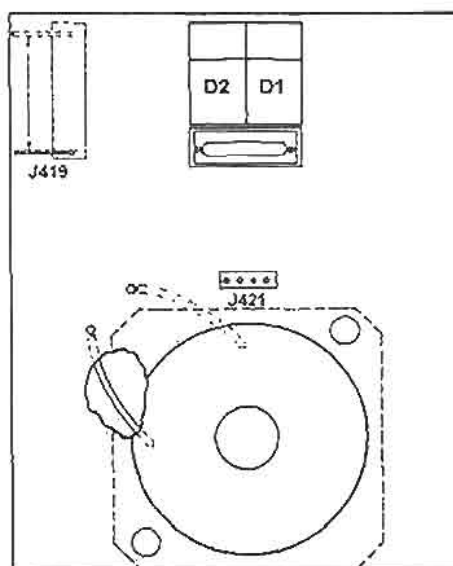
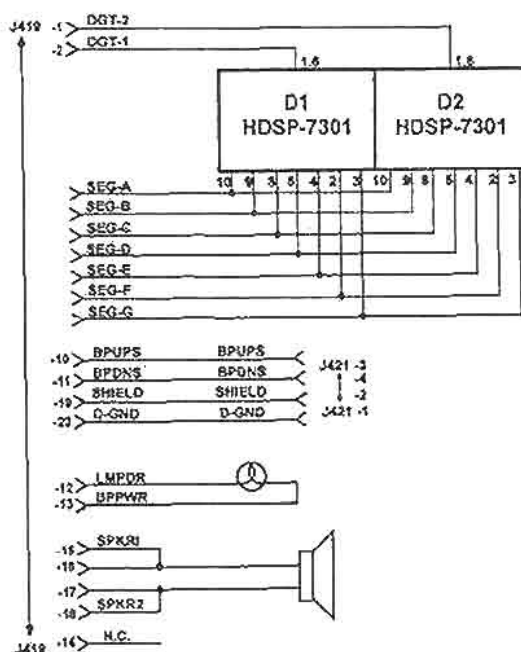

Figure 4-3. Bipolar display PCB.
Figure 4-4. Bipolar display PCB schematic.
c. The BD PCB is illustrated in figure 4-3 and the schematic diagram for the BD PCB is shown in figure 4-4.